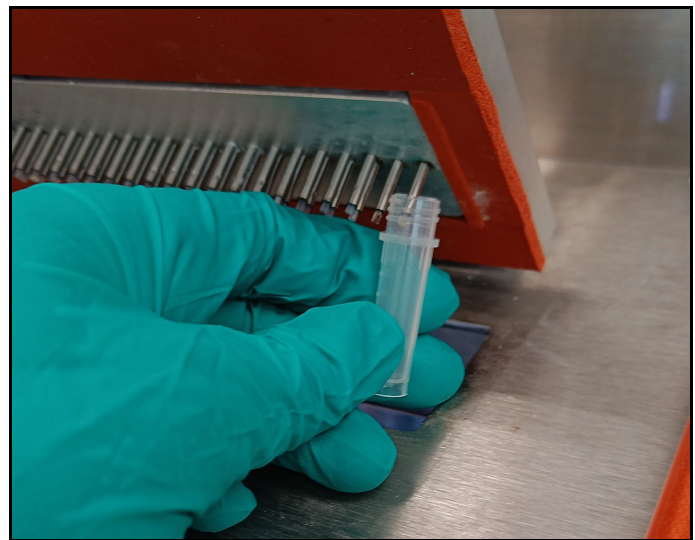

Figure 12
When performing valve calibration it is easier to unlock and raise Injection Head so that injection lines are more accessible (Figure 12).
5. Place 2ml tube (1) under correct injection pin (2) with lid open. (Figure 12)